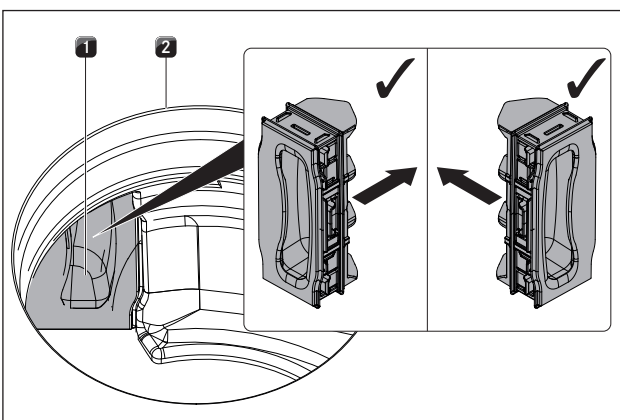

Fig. 8.11 Inserting the filter replacement cover
- ▶ Inside the inlet opening push the filter replacement cover until it comes to a stop in the filter housing opening (To insert the filter replacement cover see Fig. 8.11).